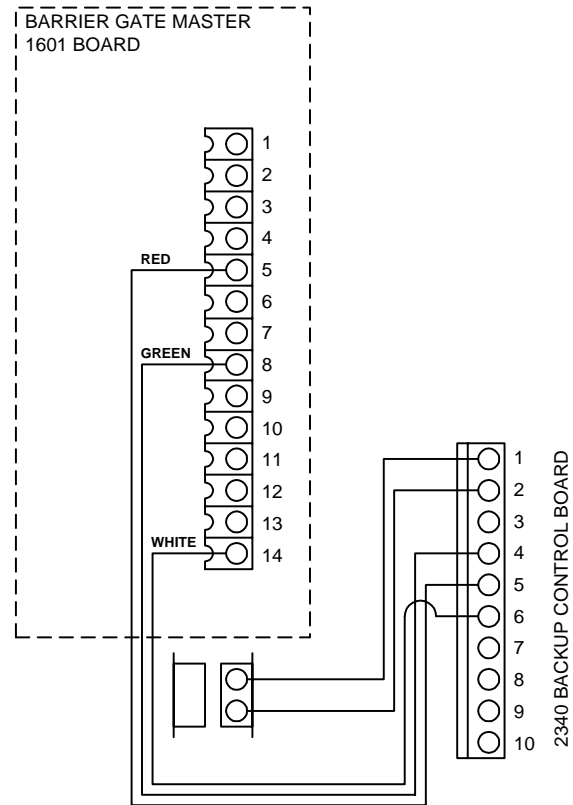

Figure 9
- If RF transmitters are used to open the access gate, connect the radio receiver to terminals 1-2-3 on the battery backup control board as shown in Figure 9. Terminal-1 is RADIO RECEIVER COMMON, Terminal-2 is the RELAY CONTACT, terminal-3 is RADIO RECEIVER POWER.
- If your gate access system uses an RF receiver that outputs the received transmitter data in weigand format to an external weigand controller, then the transmitter will not open the gate unless the weigand controller has its own backup power system to provide it with backup power when primary (AC) power fails.